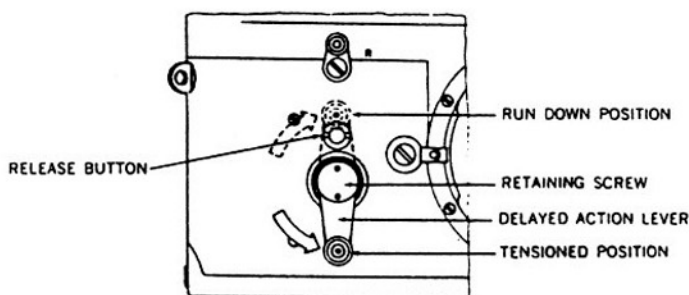

Figure 4-19. Delayed Action Lever, Tensioned Position.
- (a) Bend the contact arm nose (fig. 4-19) with tool 42-253.01-U443W6. Bending the nose toward the cam increases the delay of contact closing. Bending the nose away from the cam decreases the delay.
- (7) After making a synchronizing adjustment, recheck and adjust alternately between 1/1000-second and 1/60-second until both settings are correct.
(Fig. 4-19, 4-20, 28, 29)
c. Adjusting (fig. 4-19). After the delayed action clockwork has been installed, and the camera inner housing inserted in, and secured to the outer housing, wind the clockwork spring as follows:
- (1) Tension the clockwork spring by turning the delayed action lever counterclockwise as far as it will go (fig. 4-19).
- (2) Loosen the left-hand-threaded retaining screw with tool 42-253.01-597W2. Lift the lever, rotate it clockwise to the vertical position, and immediately tighten the retaining screw.
- (3) Fully tension the clockwork spring by repeating the procedures in (1) and (2) above two or three times.
- (4) Set the camera shutter speed dial to "B", wind the shutter, and depress the delayed action release button. The delayed action clockwork should not release the shutter. If the clockwork does trip the shutter, increase tension of the clockwork spring as in (1), (2) and (3) above.
- (5) Hold the delayed action lever in its vertical (run-off) position and loosen the retaining screw, permitting the clockwork to operate.
- (6) Tighten the retaining screw immediately after the second shutter curtain has been released.